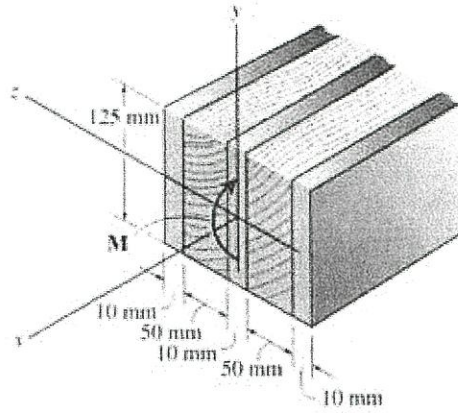
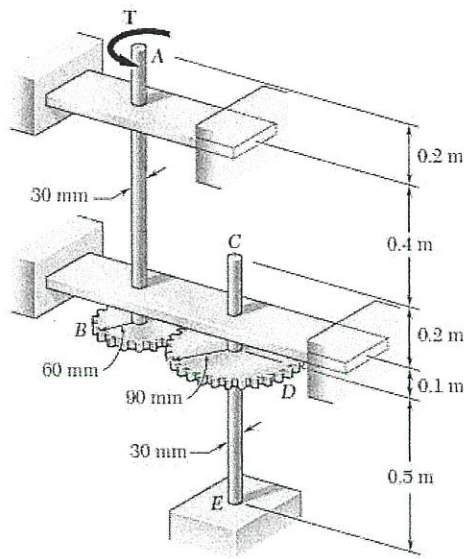

Figure Q3(b)
Figure Q4(b)
- Q3** (a) (i) Define area moment of inertia (I). (2 marks)
- (b) The composite beam as shown in **Figure Q3(b)** consists of a Douglas fir wood core and three A-36 steel plates. If the allowable bending stress for the wood is $(\sigma_{\text{allow}})_w = 20$ MPa and for the steel $(\sigma_{\text{allow}})_{st} = 130$ MPa, determine the maximum moment that can be applied to the beam. Given $E_w = 13.1$ GPa and $E_{st} = 200$ GPa. (12 marks)
- Q4** (a) State **FOUR (4)** example the application of torsion. (4 marks)
- (b) Two solid steel shafts, each of 30 mm diameter, are connected by the gears as shown in **Figure Q4(b)**. Knowing that $G = 77$ GPa, determine the angle through which end A rotates when a 200 Nm torque is applied at A. (16 marks)